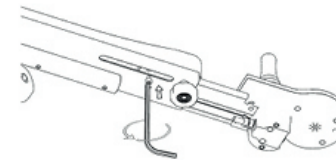

FIGURE 19
3. Reinstall the screws ① on the joystick. Tighten the screws ①.(Figure 19)